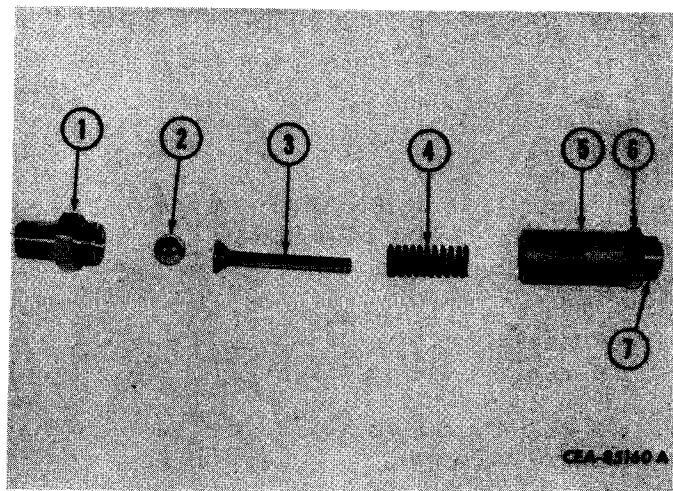

Figure 13-11
Unscrew spring cage (5, Fig. 13-11) from body (1). Lift ball (2) from body. Remove release pin (3) and spring (4) from spring cage.
Place spring (4, Fig. 13-11) on release pin (3) and insert them into spring cage (5). Place ball (2) in body (1). Position spring cage, release pin and spring over ball and screw cage into body. Tighten to recommended torque. (Refer to "SPECIAL TORQUES.")